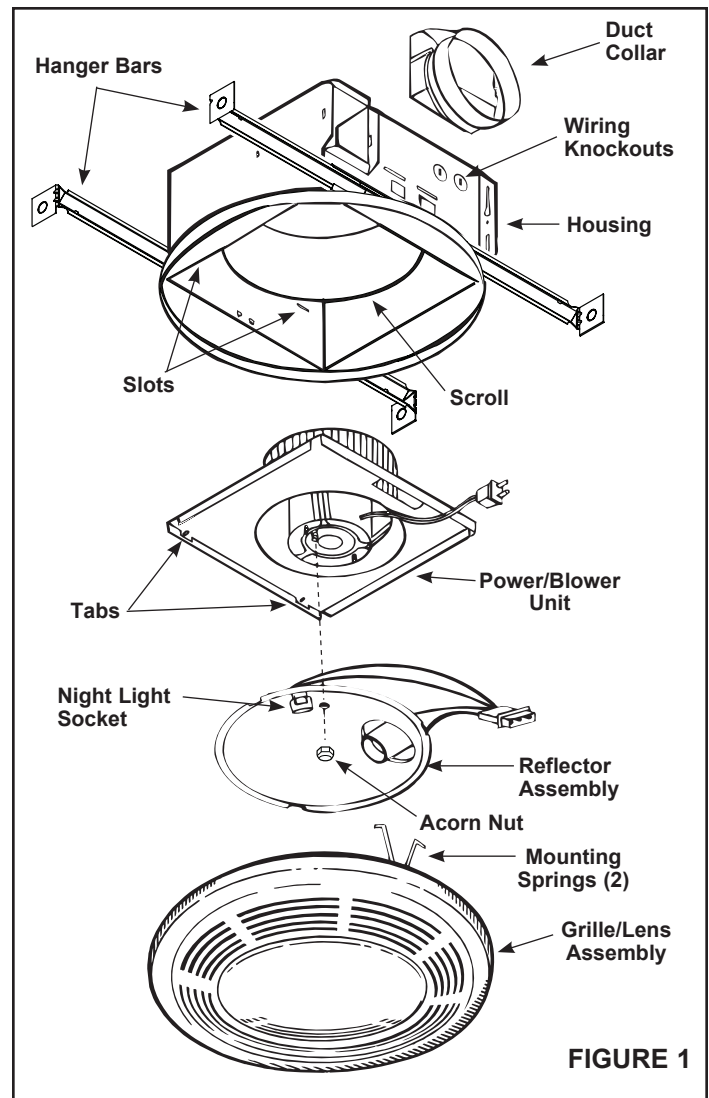

FIGURE 1
1. Refer to Figure 1. Remove power unit/blower assembly from housing.
1. Refer to Figure 1. Place power/blower unit into housing so that mounting plate's tabs insert into slots in housing.